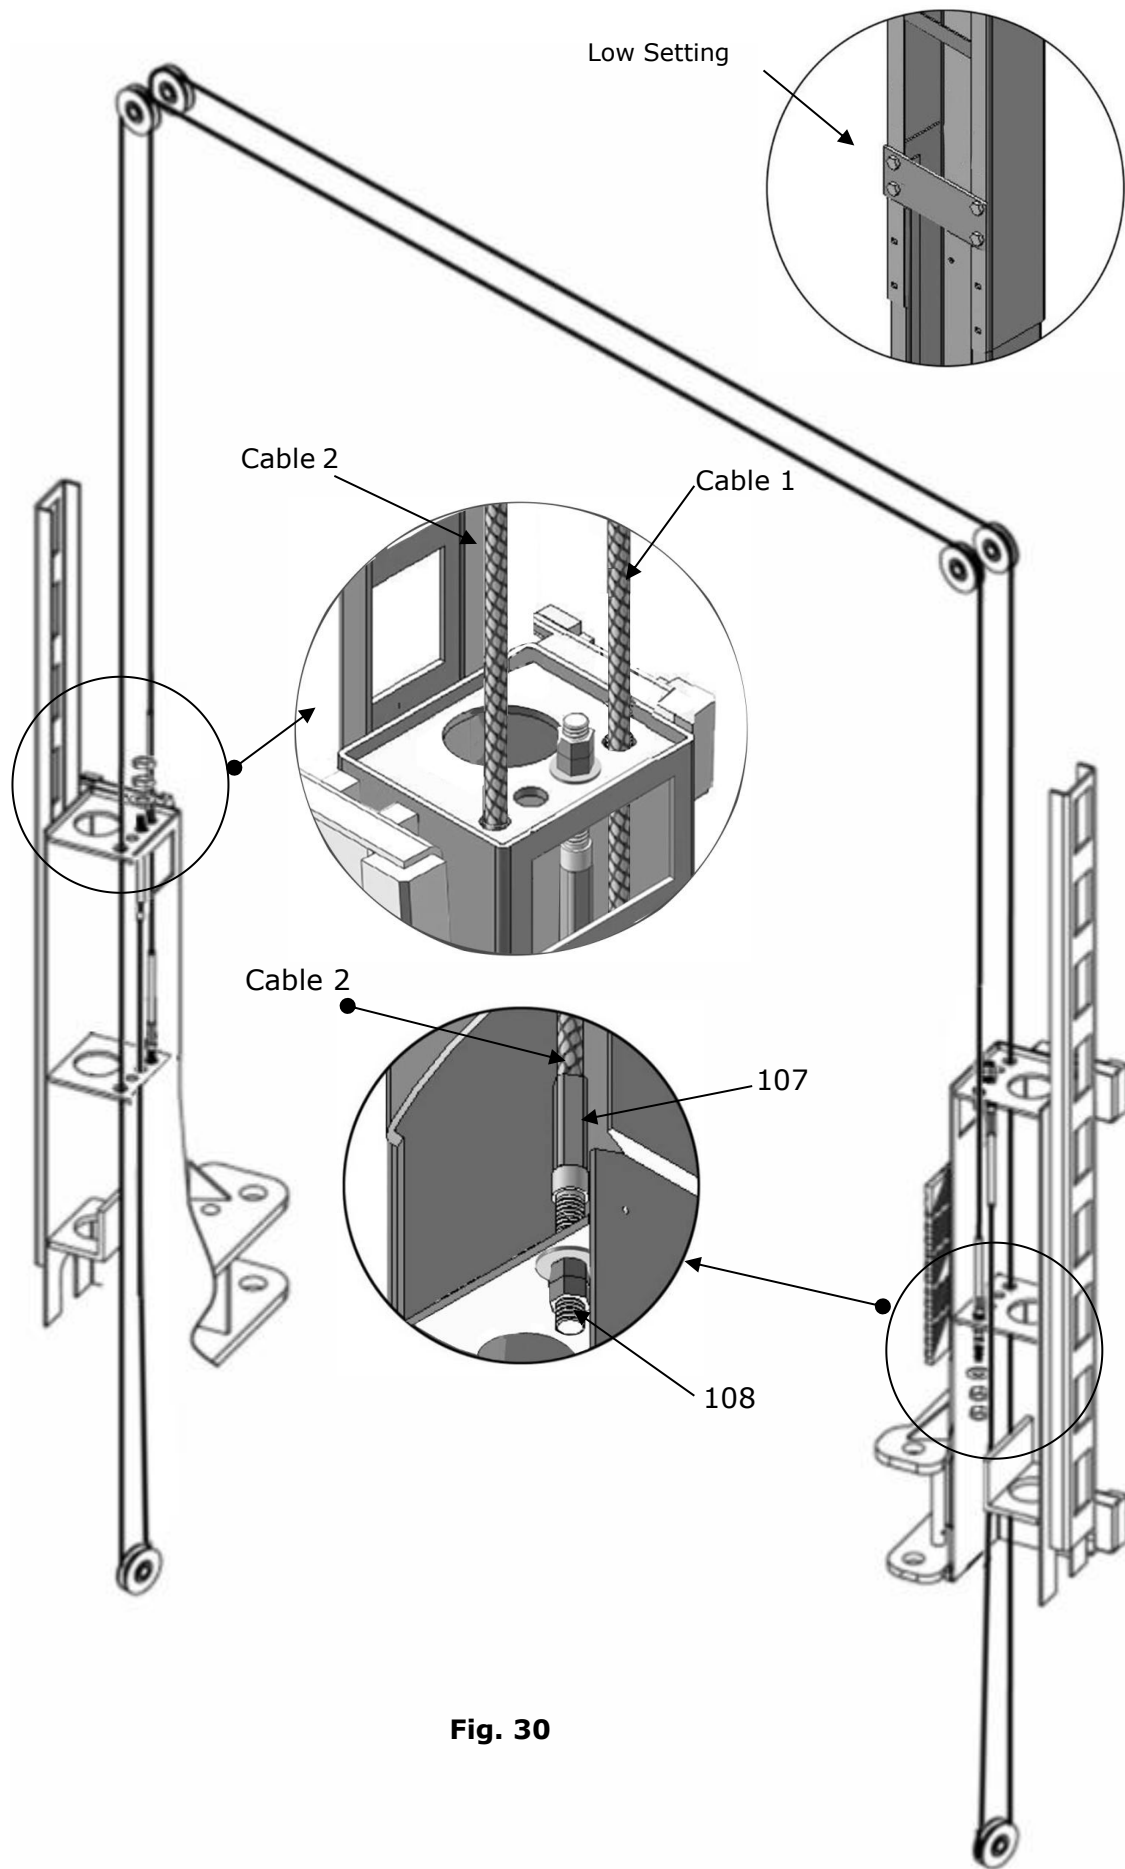

Fig. 30
2. Low setting cable connection. (See Fig. 30).